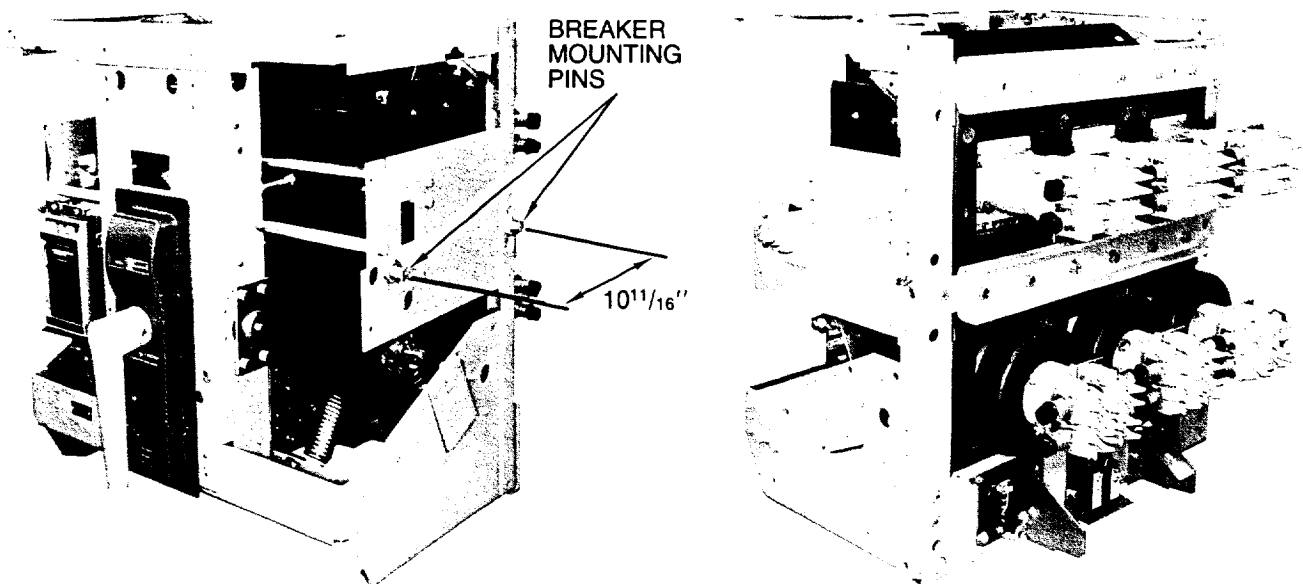

Fig. 5 AKR-5C-75 manually operated (AKD-6 type)
5.5 CODE C (AKD-6 SWITCHGEAR) (Fig. 5)